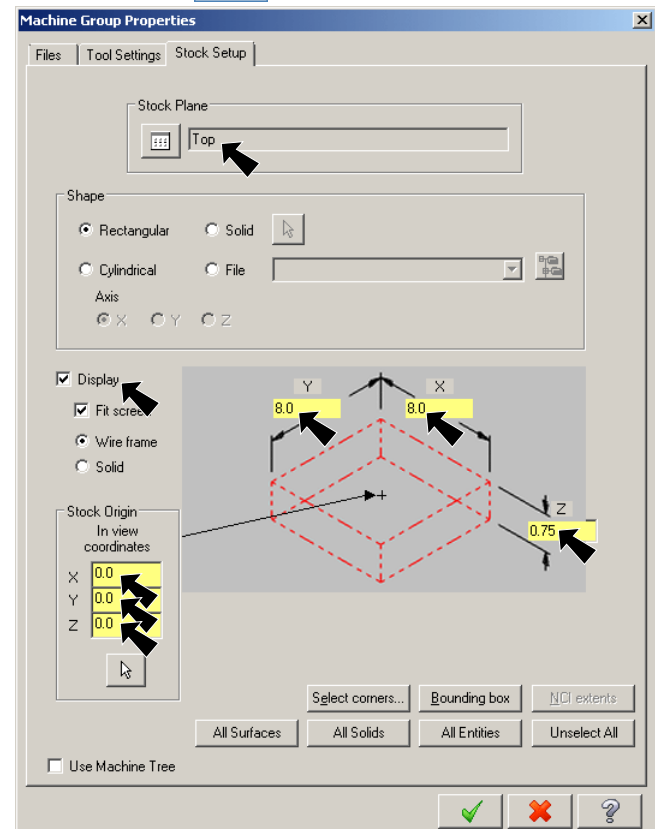

Fig. 38
Step 4. Confirm Stock Plane is **Top**, **Fig. 38**.